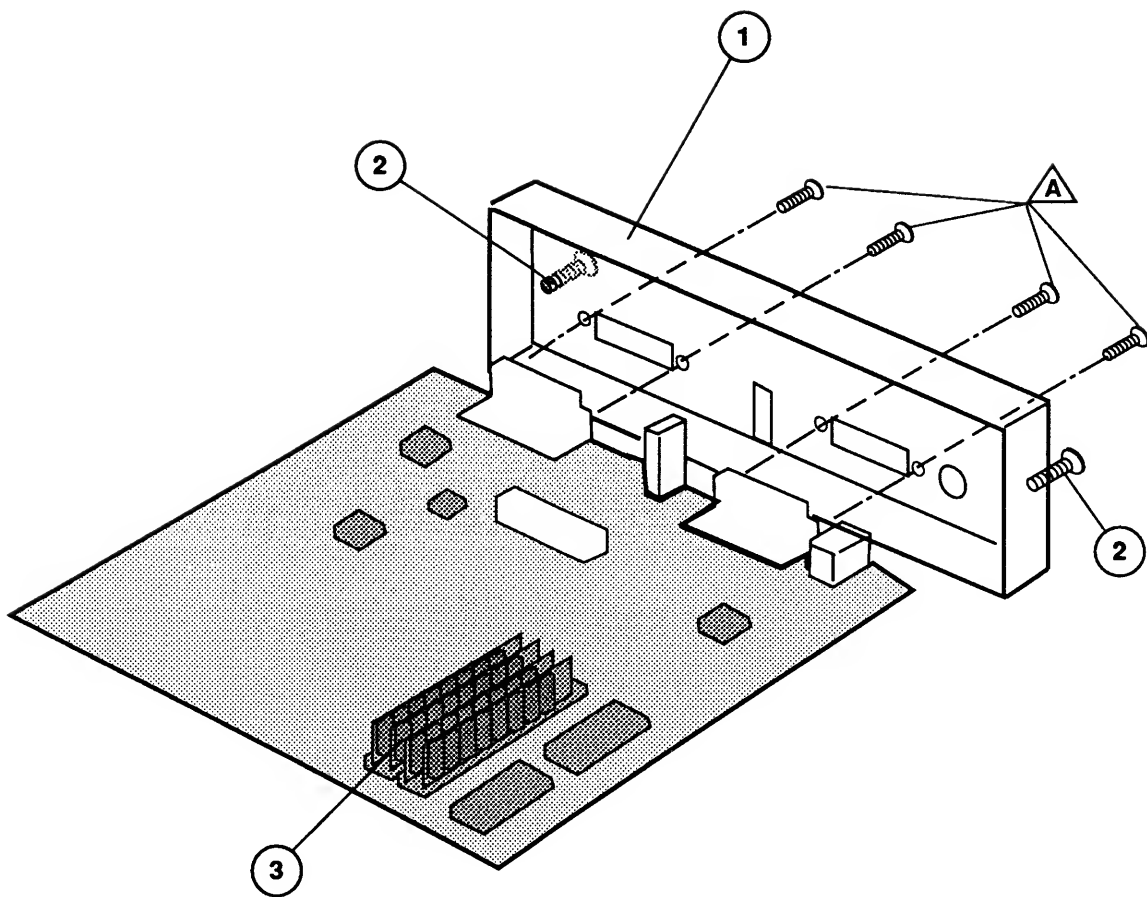

Figure 26
□ I/O BOARD – LW SC (Figure 26)